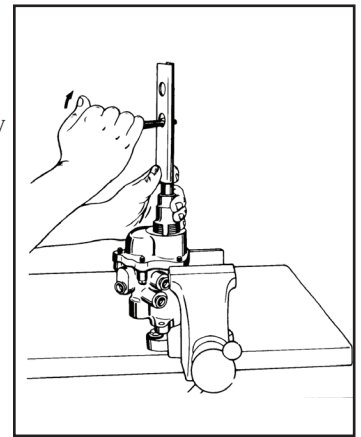

FIGURE 4
2. Position special tool J-24569 around pedal rod (figure 4). Allow tool to rest against input rod end.